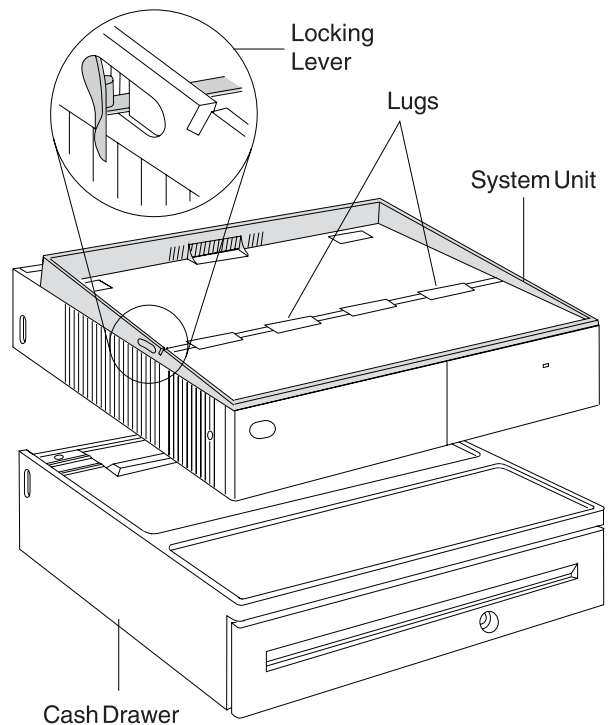

Figure 1-16. I/O Device Removal
- 5 On an integrated terminal the I/O devices are locked into the top cover by lugs located under the devices. See Figure 1-16. The locking lever for these is located on the left side (from the front) of the top cover. Pull this lever outward to unlock the devices. Once unlocked, the printer can be lifted up and out of the top. The keyboard must be pushed slightly to the rear and then lifted up and out.